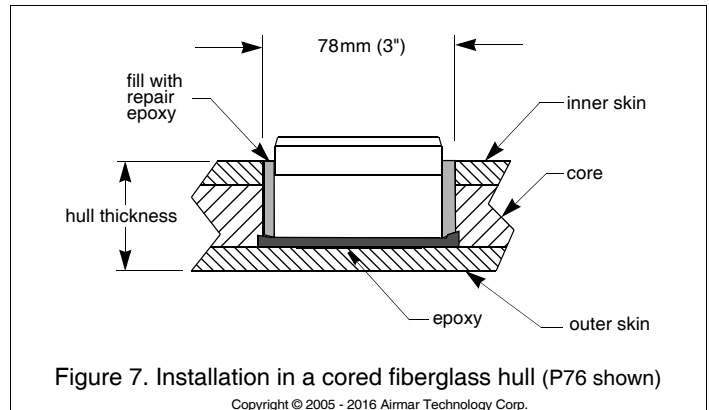

Figure 7. Installation in a cored fiberglass hull (P76 shown)
1. Using a 78mm or 3" hole saw, cut through the *inner* skin and the core at the selected location (see Figure 7). The core material can be very soft. Apply only light pressure to the hole saw after cutting through the inner skin to avoid accidentally cutting the outer skin.